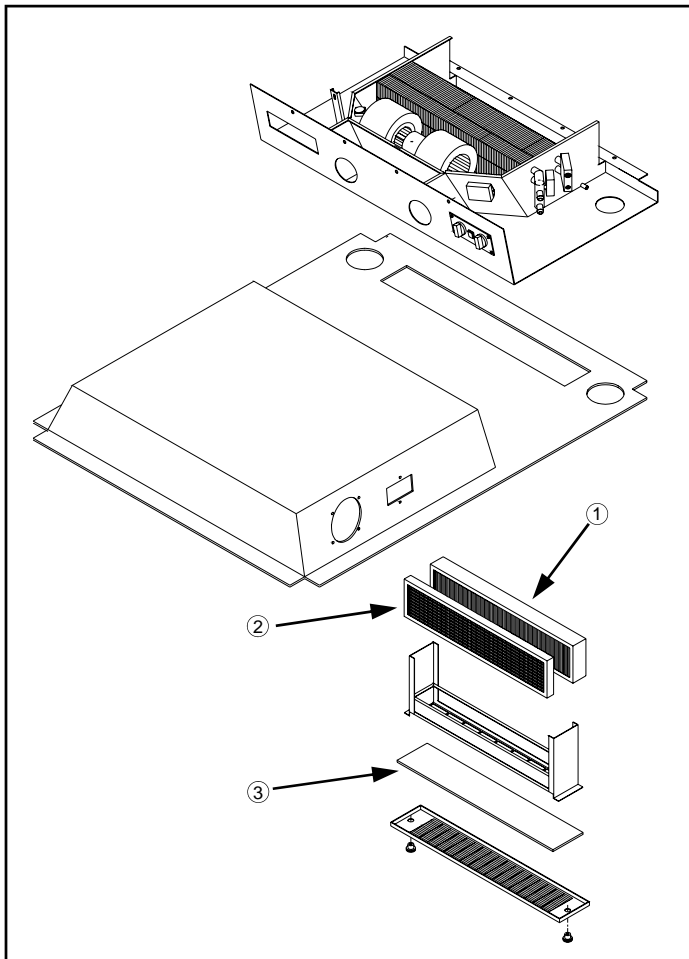

FIG 8.26
**PAPER FILTER** - (fig. 8.26, item 1) The paper filter should be cleaned once a year, or more often if necessary. Remove the paper element and gently tap it against a flat surface. Direct low pressure compressed air through the filter to remove larger particles. Replace the paper filter if necessary.
**CHARCOAL FILTER** - (fig. 8.26, item 2) Remove and replace at the first sign of chemical odor entering the cab.
**RECIRCULATING FILTER** - (fig. 8.26, item 3) The recirculating filter may be cleaned with soap and water. Replace if it becomes worn.